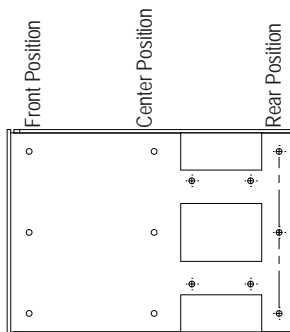

Figure 3
Step 3. Place ear bracket ❖ on right and left side of main panel ◆. You can align your main panel ◆ to Front Position, Center Position or Rear Position screw holes on ear brackets (Figure 3) depends on your application need. Rear Position is the standard mounting position.